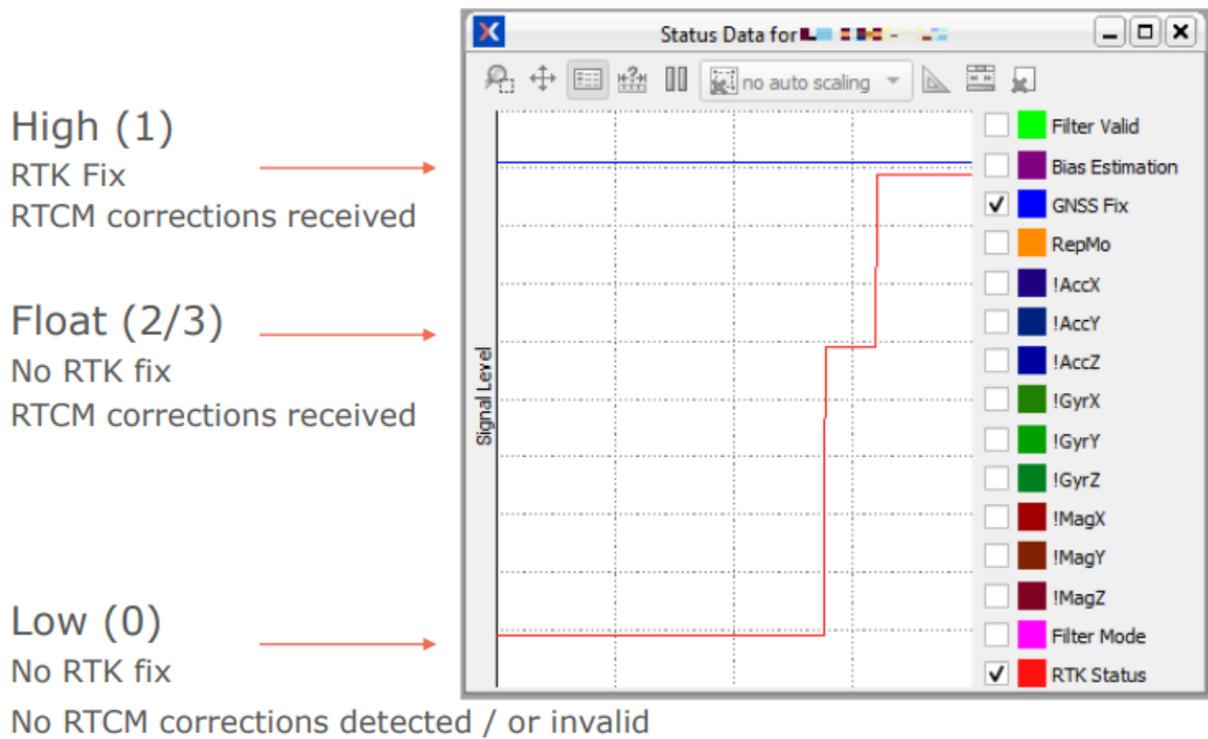

Figure 12: Possible States of the RTK Status Flag
- **The RTK Status flag** indicates the availability and status of RTK. This flag has 3 states: High (RTK Fix), Middle (RTK Float) and Low (No RTK). Figure 12 shows the possible states of the RTK Status flag in the Status Data view.